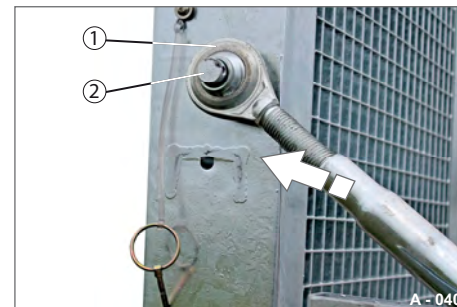

Fig. 59 Removing the securing rod (top)
- ▶ Pull the top linkage with ring (Fig. 59/1) out of the bolt (Fig. 59/2).